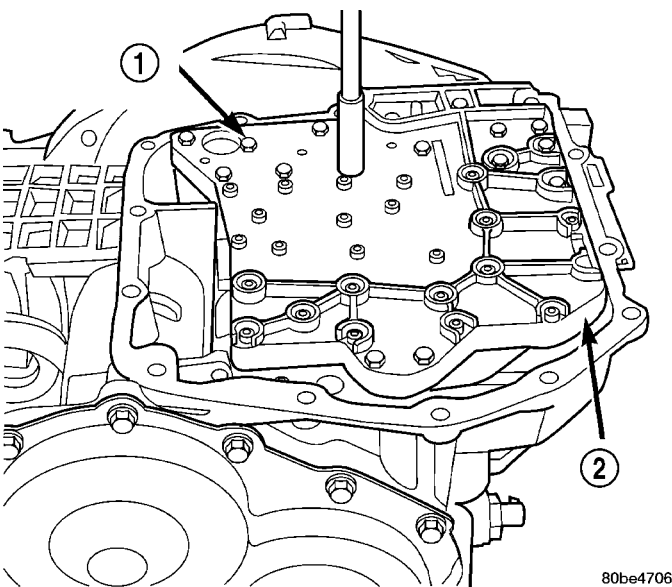

Fig. 338 Valve Body Attaching Bolts
(8) Remove the valve body-to-transaxle case bolts (Fig. 338).